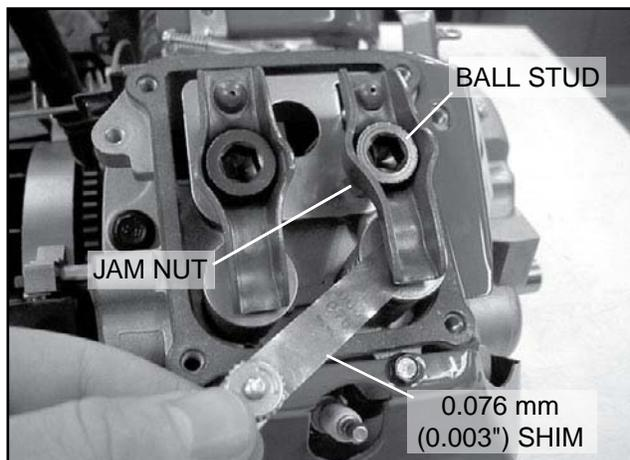

Figure 44
1. Remove the four (4) screws from the rocker cover.
3. Loosen the rocker arm jam nut. Use a 10mm allen wrench to turn the pivot ball stud and check the clearance between the rocker arm and the valve stem with a flat feeler gauge (see Figure 44).